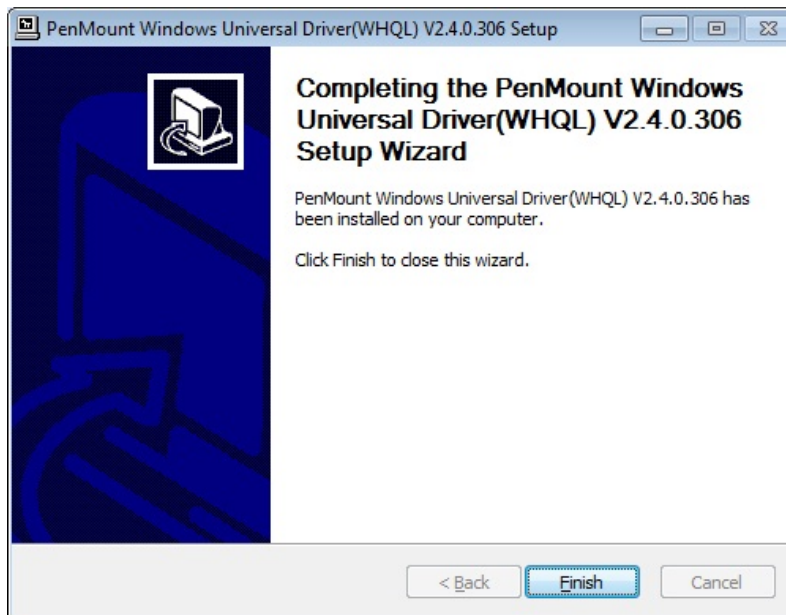

Figure 6-34: Touchscreen Driver Installation Finish Screen
Step 11: When the installation is complete, the screen in **Figure 6-34** appears. Click **Finish** to close the setup wizard.